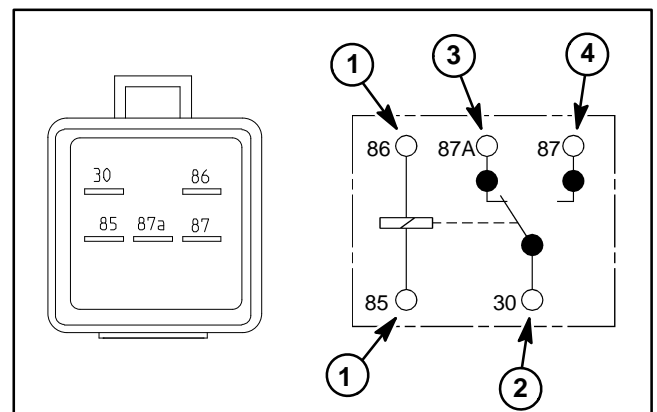

Figure 55
3. Using a multimeter (ohms setting), measure coil resistance between terminals 85 and 86 (Fig. 55). Resistance should be between **70 and 90 ohms**.